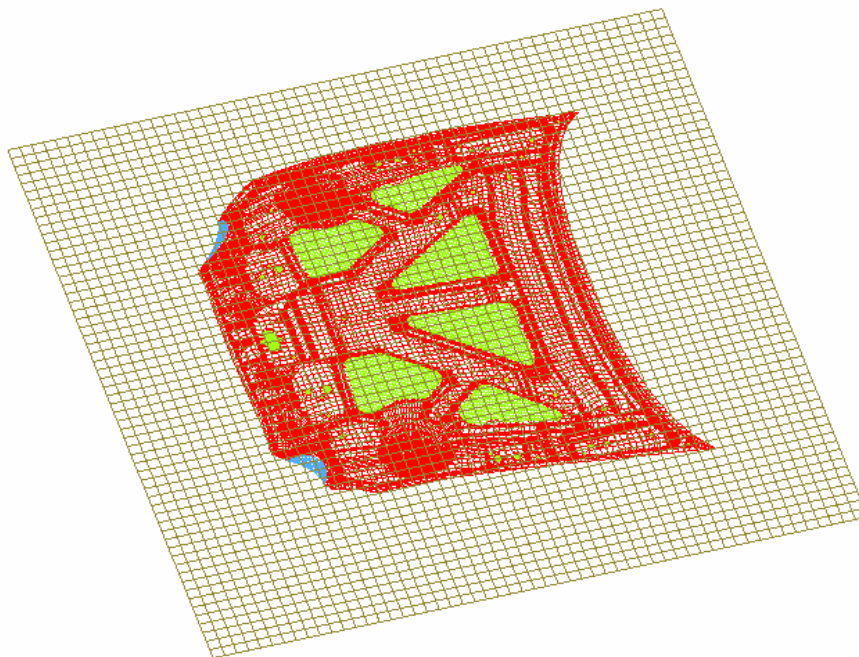

Figure 32 Mesh Binder Surface
8. Click **OK** to mesh the binder surface. The binder surface has been meshed, as illustrated in Figure 32